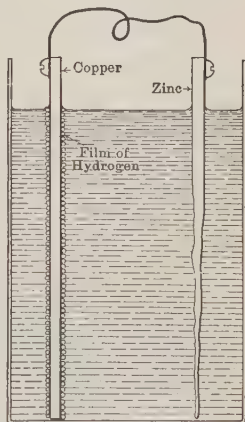

FIGURE 443. — POLARIZATION.
The drop in voltage, that occurs after the current has been flowing for some time, is due to *polarization* of the cell. The cause of this polarization is the accumulation on the positive (copper) plate of these hydrogen bubbles which have not yet escaped (Figure 443). This accumulated hydrogen reduces both voltage and current: (1) The hydrogen tends to set up an electromotive force in a direction opposite to that of the cell, and thus decreases the effective electromotive force. (2) The hydrogen reduces the conducting area of the plate, and so increases the resistance.